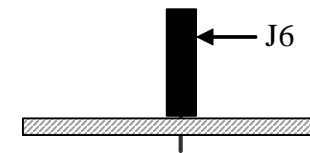

Figure 6-4
- Install the 6-pin, single-row female connector, J6, which is just left of the power switch. It must be seated vertically on the board and must not be tilted (Figure 6-4). Solder just one pin near the center of J6.